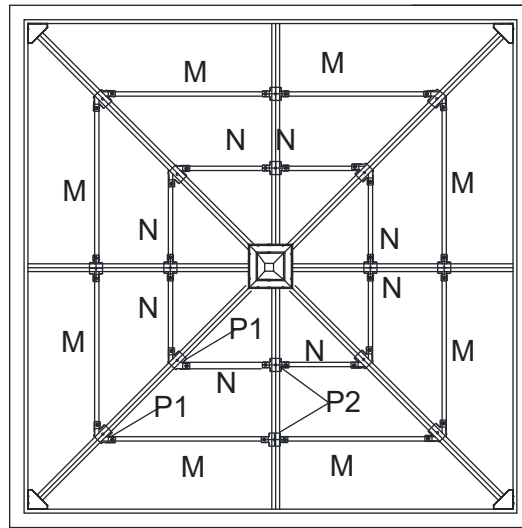

Figure 9-5
9.5: Repeat for all sides. Tighten all Bolts. See Figure 9-5.